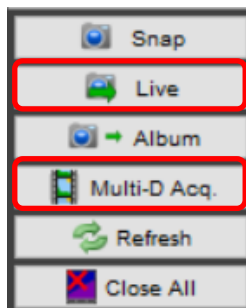

Figure 11: µManager Live and Multi-Dimensional Acquisition modes circled in red
10. Select Live mode (Figure 11) to begin live image acquisition.
1. Create a new Group by clicking the Group '[+]' icon on the main screen (see Figure 11, circled in red). To control both channel selection and intensity, select all channel selection and intensity properties, and name this Group "DAPI/FITC/TRITC/Cy5". Click 'OK'.
- Click 'Multi-D Acq.' (Figure 11) to enter the Multi-Dimensional Acquisition setup (Figure 22).